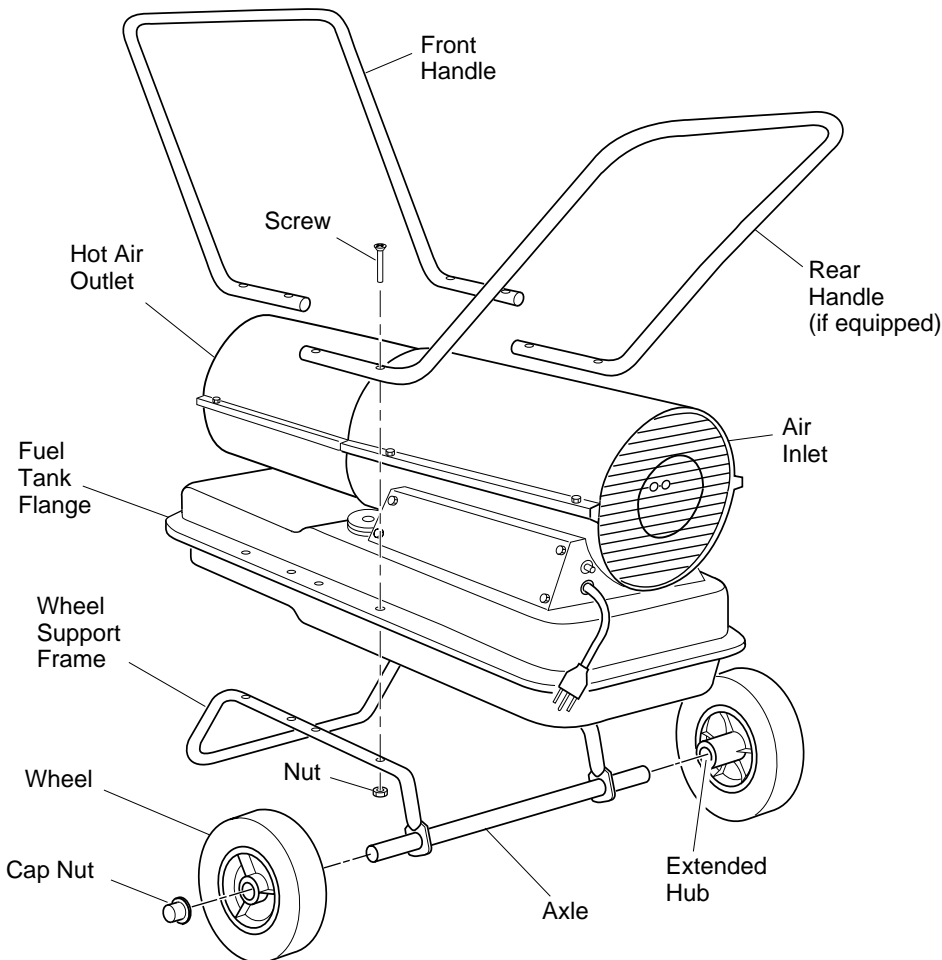

Figure 1 - Wheel and Handle Assembly
**IMPORTANT:** When installing wheels, point extended hub of wheels toward wheel support frame (see Figure 1).